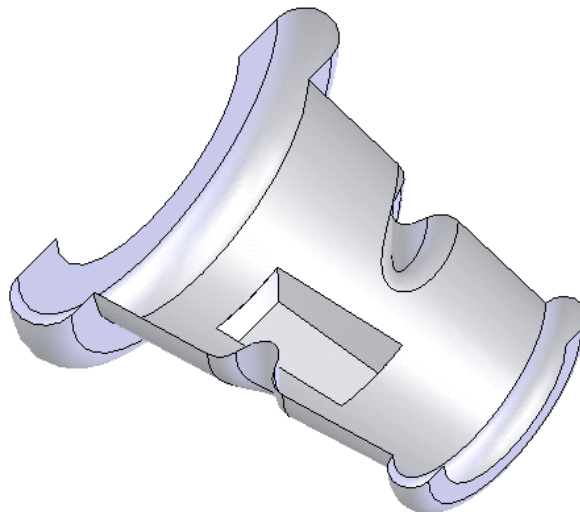

Figure 15-113 Model after trimming the base surface using the lofted surface
- h. Trim and knit all the surfaces together, refer to Figure 15-113.
Figure 15-113 shows the model after trimming the base surface using the lofted surface.